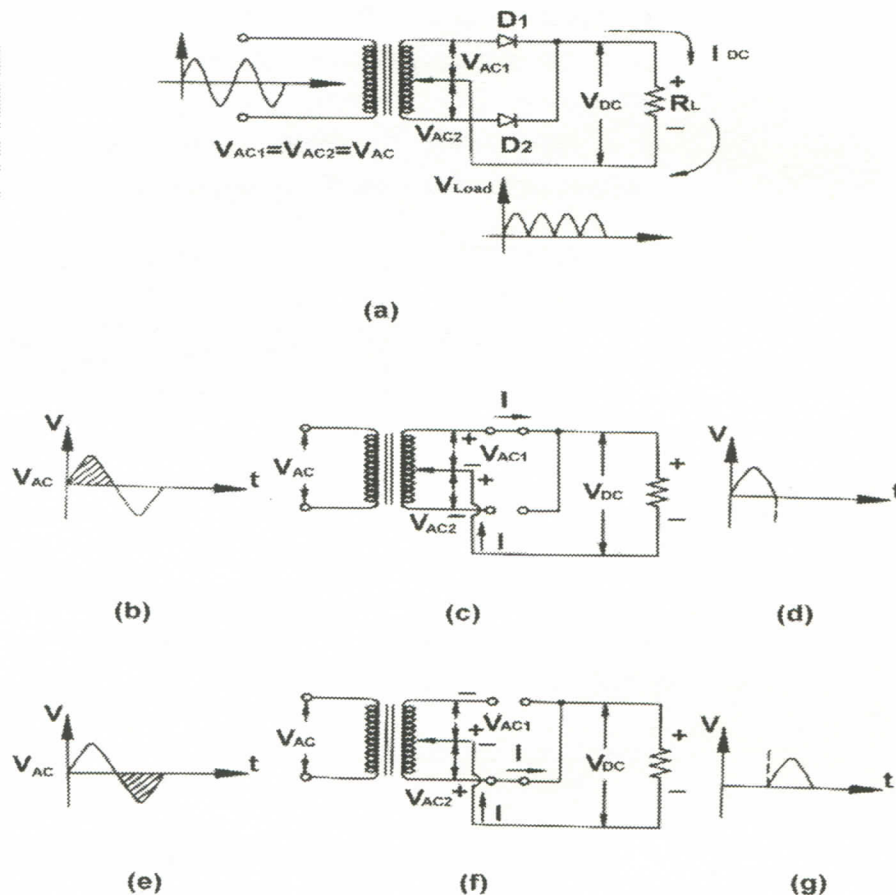

Fig 3.6 Full-wave Rectifier Circuit
The full-wave rectifier circuit is shown in Fig 3.6 (a). It shall be noted that a center-tapped transformer, with $V_{ac1} = V_{ac2}$, must be used in this circuit.
- 1) During the positive half cycle, the input voltage V_{ac1} is shown in Fig 3.6 (b). As the upper end of V_{ac1} is positive and the lower end of V_{ac1} is negative, D_1 will be forward conducted, whereas D_2 will be reversely cut off. The equivalent circuit is shown in Fig 3.6 (c), and V_o is shown in Fig 3.6 (d).
- 2) During the negative half cycle, the input voltage V_{ac2} is shown in Fig 3.6 (e). As the upper end of V_{ac2} is negative and the lower end of V_{ac2} is positive, D_2 will be forward conducted, whereas D_1 will be reversely cut off. The equivalent circuit is shown in Fig 3.6 (f) in which the direction of current flowing through R_L is same as positive half cycle, and V_o is shown in Fig 3.6 (g).